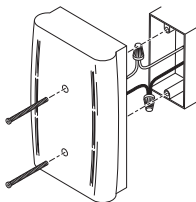

Figure 2
- 2. Locate an approved, vertically mounted, single gang, rectangular electrical box in the wall.** It is recommended that the chime be located approximately six (6) feet above the floor for best sound travel and appearance.
- 5. Mount chime and push button.** Attach chime unit to rectangular electrical box using two screws provided. Insert screws into screw holes as shown in Figure 2. Note: Chime can only be mounted in vertical position. Use arrow on rear of chime unit as a guide. Turn on household power.